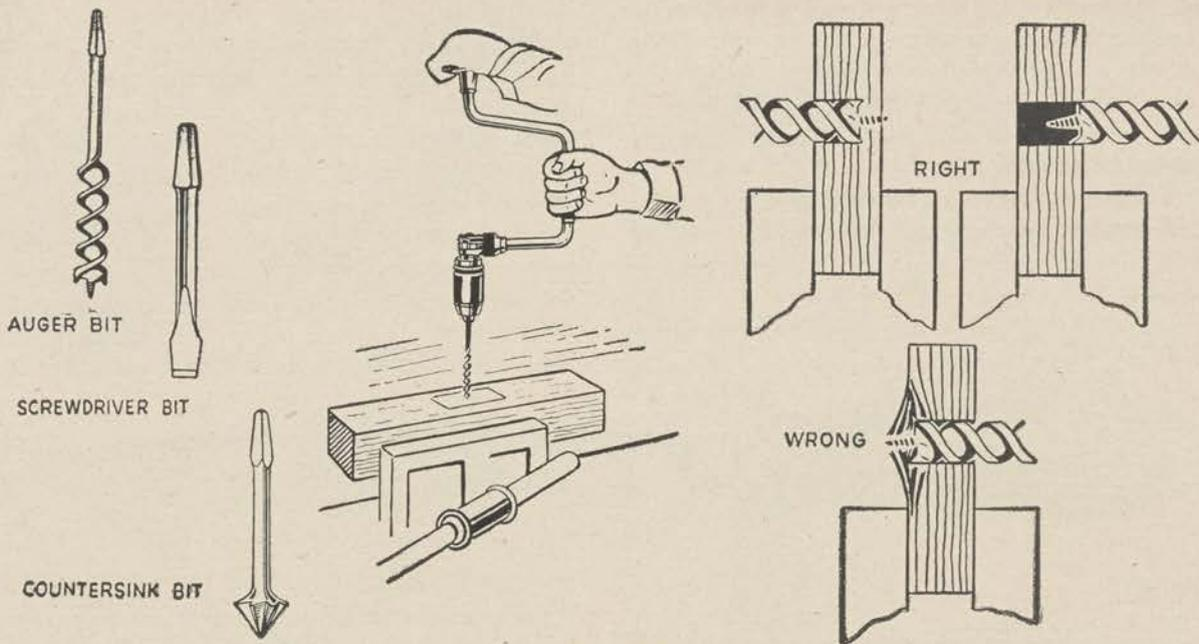

Figure 79.
b. More important than the hand drill, is the ratchet brace with assorted augur bits (fig. 79). It can be used for much larger holes than the hand drill and will also take a screw-driver bit and a countersink bit. In an emergency it can even handle the small smooth-shanked bits designed for the